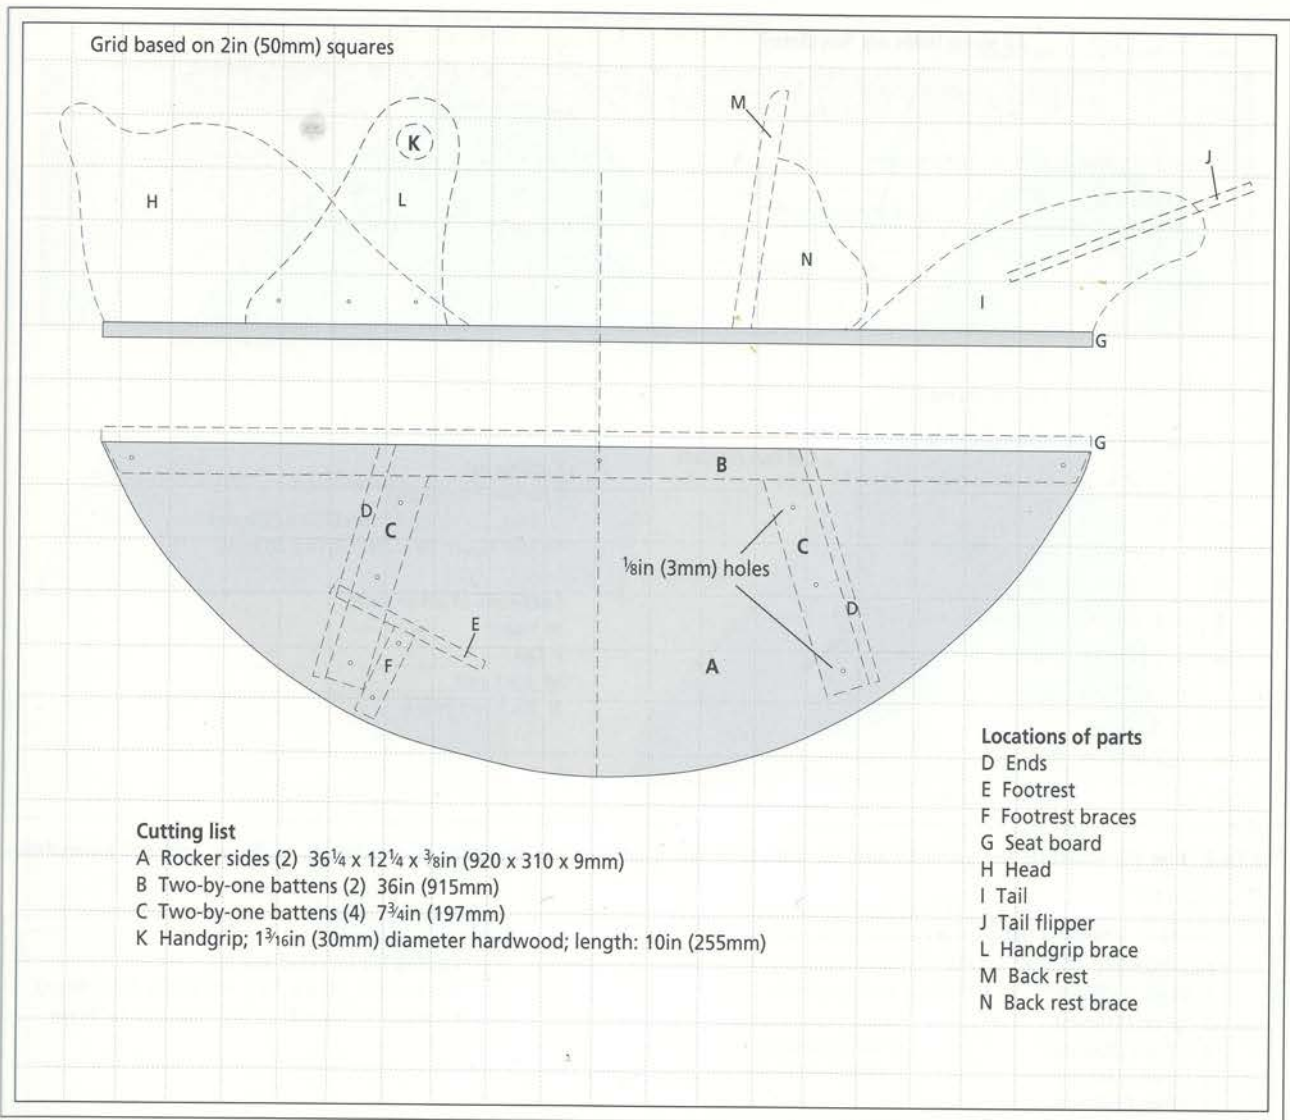
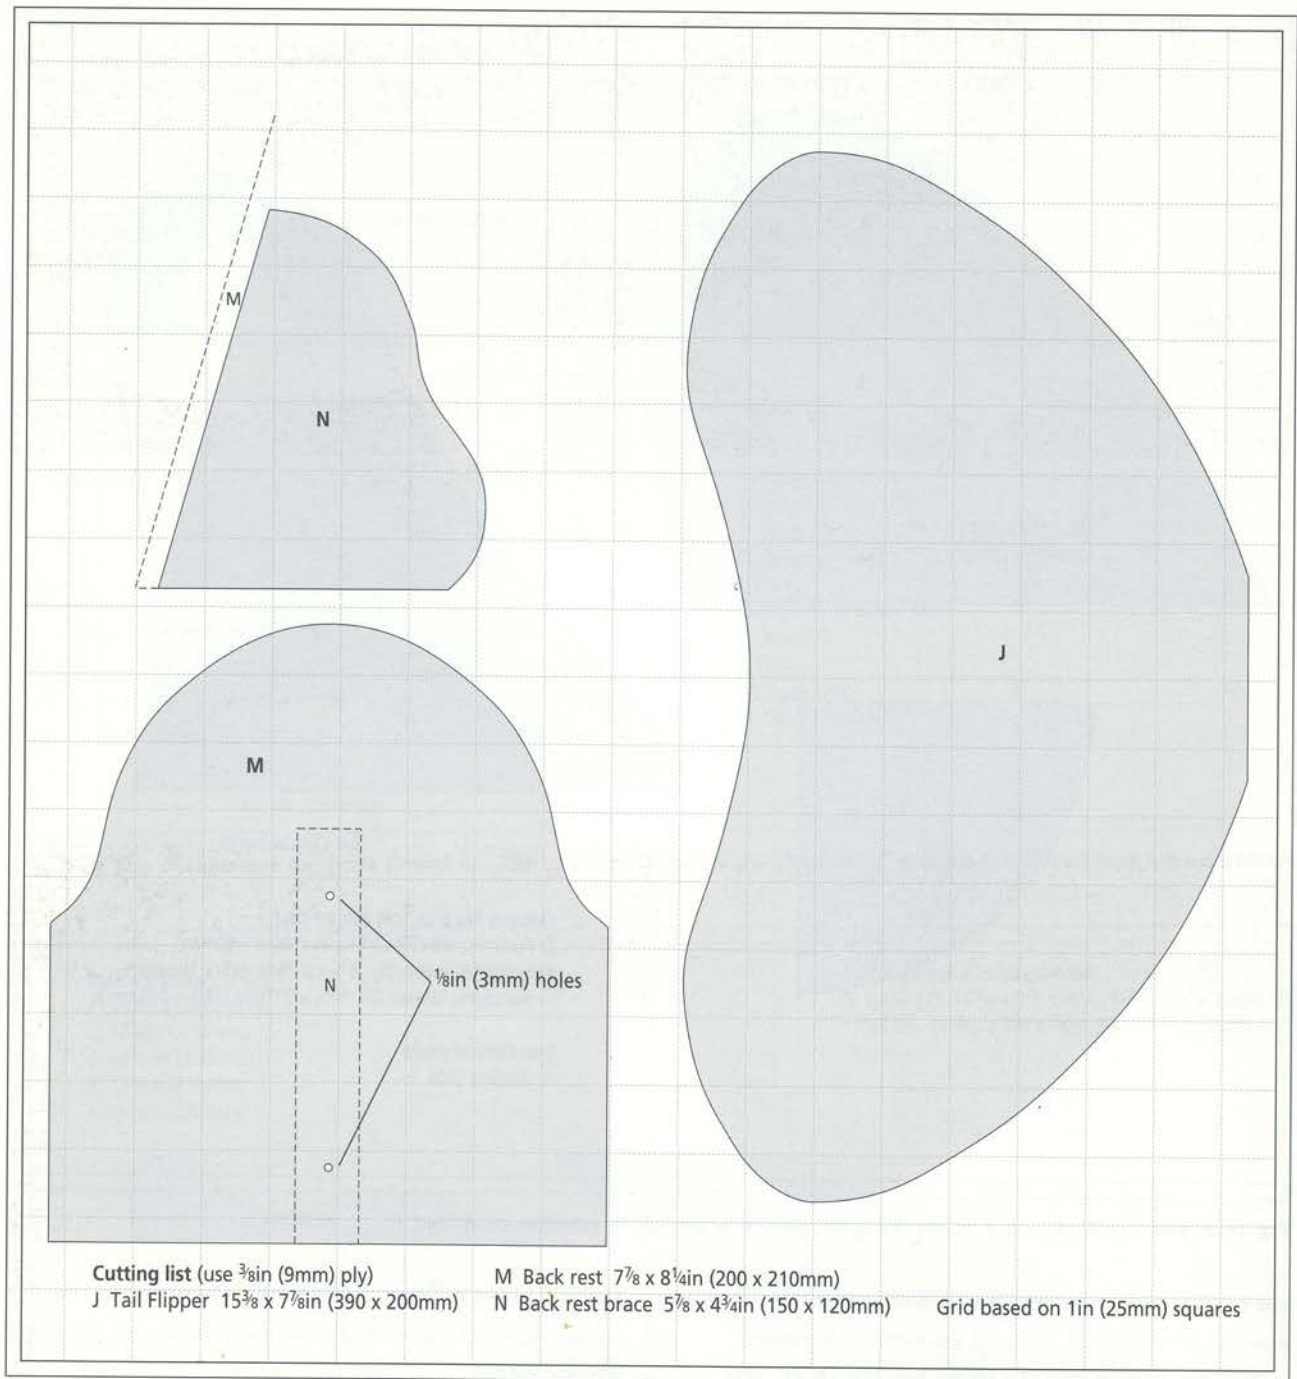

Fig 18.1 Part A may be enlarged from this grid onto ply. The dotted lines show the relation of all parts to A and G.
Fig 18.5 Enlarge J, M and N from the grid. Dotted lines on M and N show how these two parts fit together.
Enlarge all the parts shown in Figs 18.1–18.5 and transfer the shapes onto the correct thickness of ply. Mark the locations of all the screw holes as well.
Separate the two L parts and sand the edges to a small radius to remove the sharp corners. Glue and screw the two L parts to the head in the position shown in Fig 18.1. The handgrips (K) are formed exactly as described in the Rocking Panda project (see page 132). Glue K into the holes in L.
Saw to shape the tail fin (J) and shape the edges to a smooth rounded profile (see Fig 18.5). Then glue J into position in the slot in the tail section (see Fig 18.1). The photograph of the finished toy on page 134 shows the tail assembly attached to the seat board (G).
Saw to shape the back rest (M) and the two back rest braces (N). Fig 18.5 shows the shapes of these parts. Shape the edge of M to a smooth rounded profile. Glue and pin the two N parts together and, when dry, round over the sharp edges. Drill and countersink the two holes in M and glue and screw M to N. When the glue has dried, fill the screw holes with wood filler and sand smooth and level with the surface of the ply. Prime and paint the completed assembly.
Glue and screw the head, back rest and tail sections to the seat board (G) in the positions shown in Fig 18.1. Note that all these assemblies are screwed from the underside of the seat board.